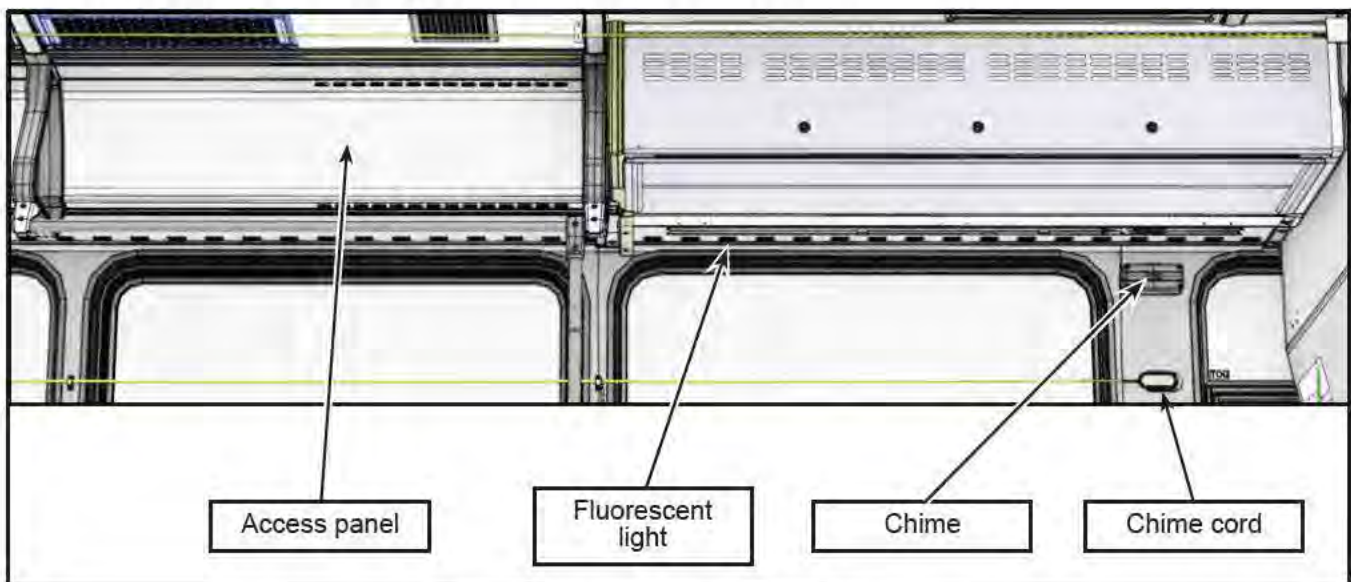

Figure 3 - Components to Remove (Typical)
- 1.9. Next to the ceiling, to access the hydraulic pipe N77549-01 (Figure 3), remove:
- 1.10. Remove the chime (Figure 3).
- 1.11. Remove the chime cord (Figure 3).